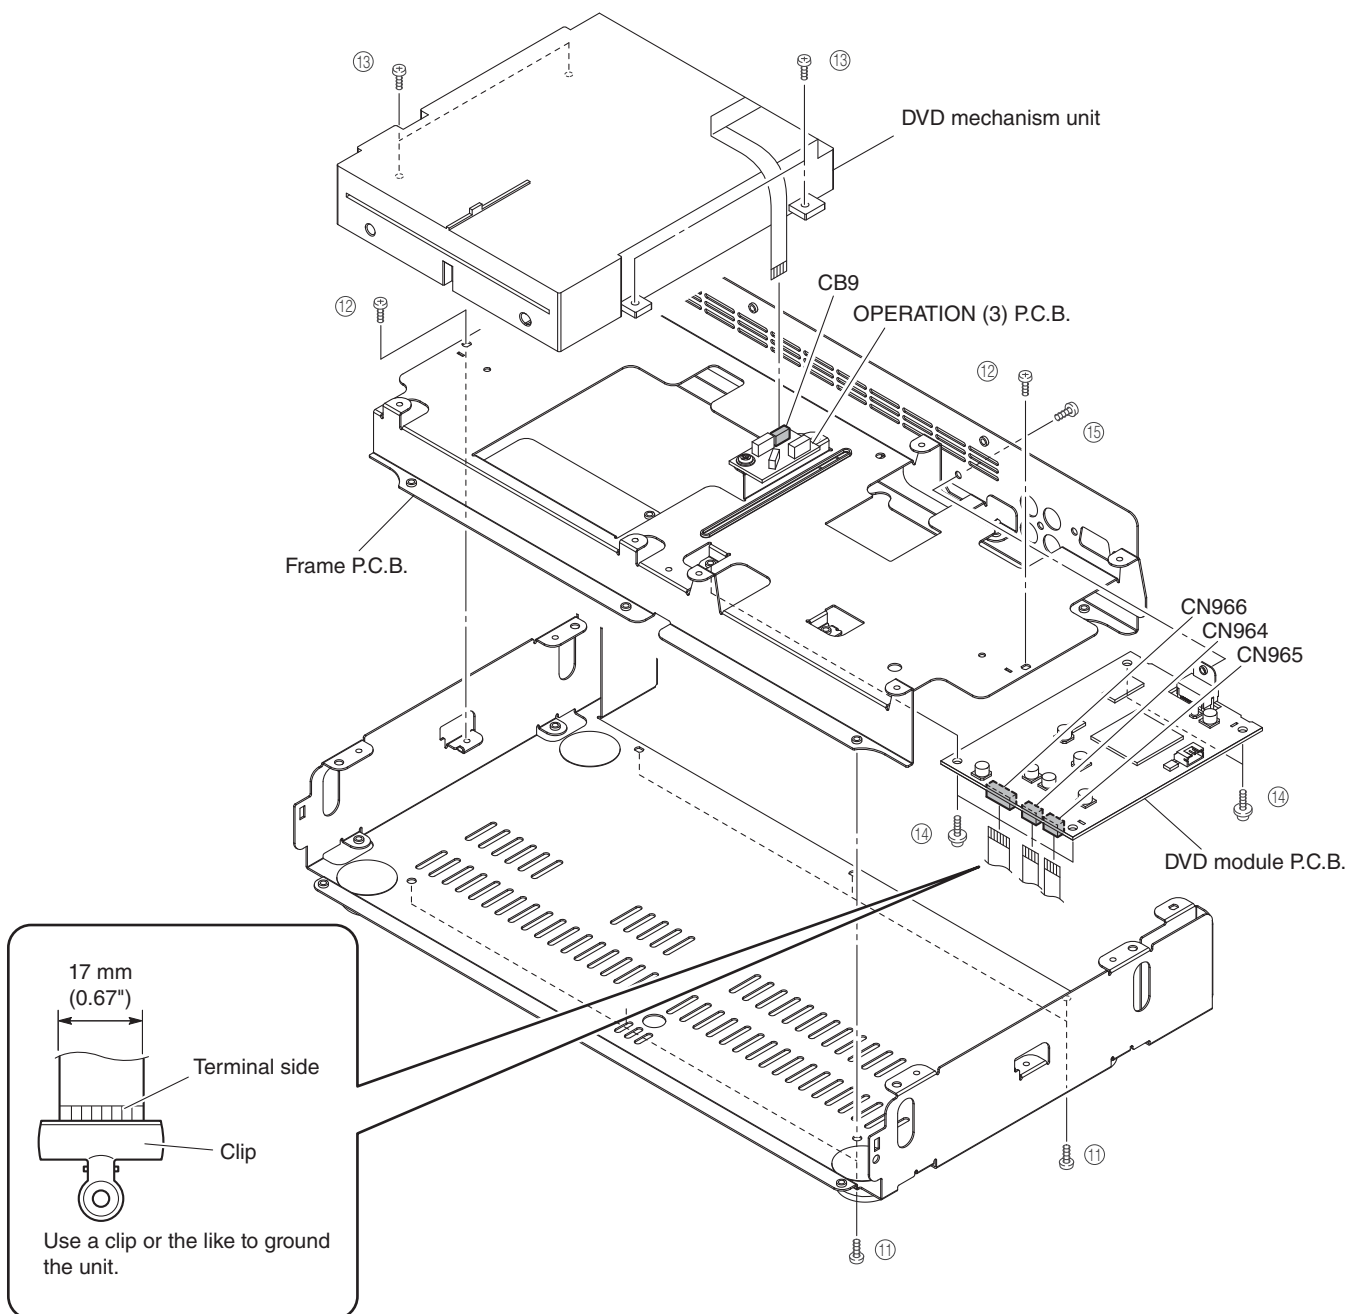

Fig. 5
- a. Remove 6 screws (⑪) and 2 screws (⑫). (Fig. 5)
- b. Remove the DVD mechanism unit , DVD module P.C.B. and frame PCB together. (Fig. 5)
- c. Remove CB9 and CN965. (Fig. 5)
- d. Remove CN966, and ground the terminal side of the flexible flat cable with a clip or the like. (Fig. 5)
- e. Remove 4 screws (⑬). (Fig. 5)
- f. Remove the DVD mechanism unit. (Fig. 5)
- g. Remove 4 screws (⑭) and screw (⑮). Fig. 5)
- h. Remove CN964. (Fig. 5)
- i. Remove the DVD module P.C.B.. (Fig. 5)